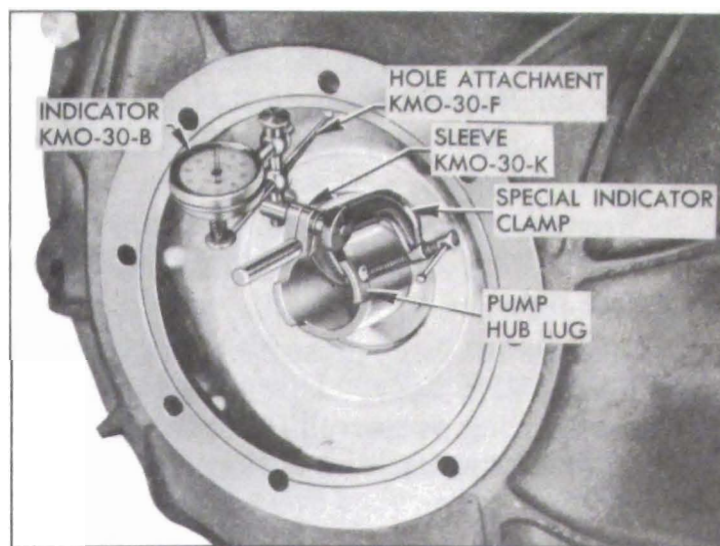

Figure 5-60—Checking Run-Out of Bell Housing Pilot Hole
8. Mount dial indicator and Hole Attachment KMO-30-F to bear against inner edge of pilot hole in housing. See figure 5-60. Run-out of pilot hole should not exceed .004".
10. Set up dial indicator as shown in figure 5-60 and bring pilot hole of housing within .004" run-out by tapping in required direction with lead hammer. If it is not possible to move housing far enough, remove housing and drill bolt holes with  $\frac{1}{2}$ " drill. When housing is placed so that pilot hole run-out is .004" or less, tighten all bolts securely.